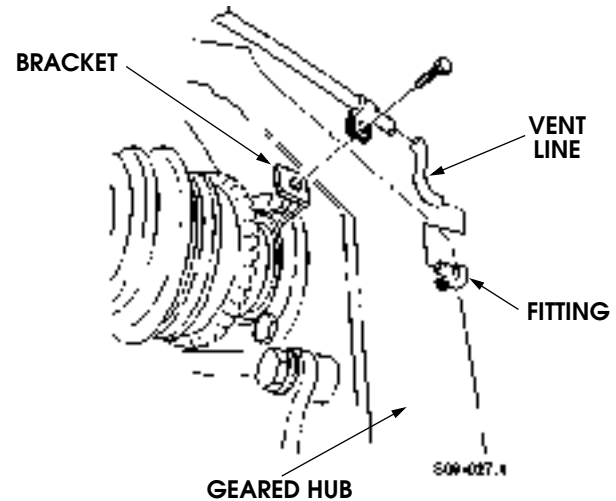

Figure 9-138: Rear geared Hub Vent Line Location
3. Connect vent line to fitting and secure clamp and vent line to bracket with bolt (Figure 9-138).